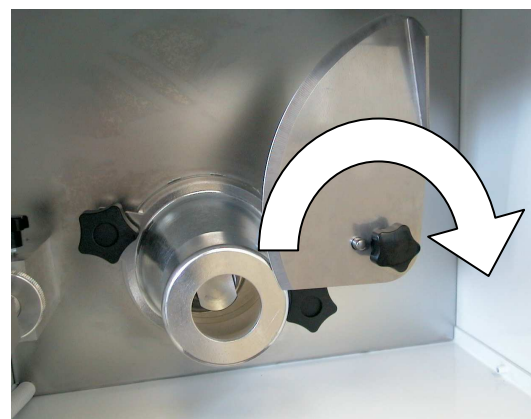

Fig. 6
2. UNSCREW THE BLADE FIXING HANDLE AND REMOVE IT (Fig. 6)